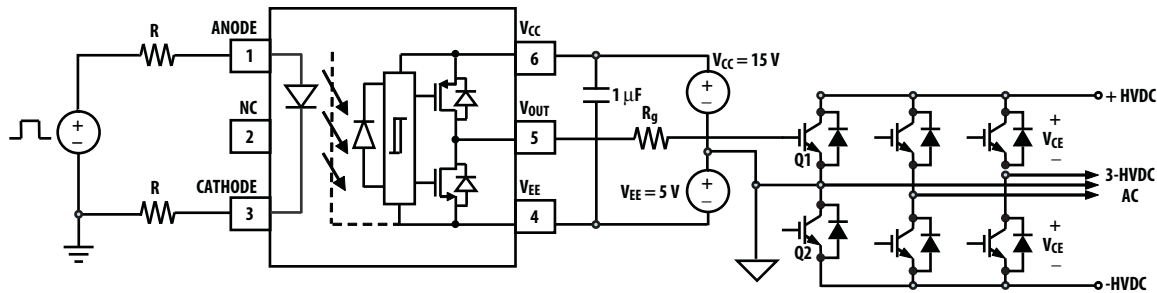

Figure 22. Recommended application circuit with split resistors LED drive.
The recommended application circuit shown in Figure 22 illustrates a typical gate drive implementation using the ACPL-P341. The following describes about driving IGBT. However, it is also applicable to MOSFET. Designers will need to adjust the V_{CC} supply voltage, depending on the MOSFET or IGBT gate threshold requirements (Recommended $V_{CC} = 15\text{ V}$ for IGBT and 12 V for MOSFET).
Step 1: Calculate Rg minimum from the I_{OL} peak specification. The IGBT and Rg in Figure 22 can be analyzed as a simple RC circuit with a voltage supplied by ACPL-P341/W341.
The ACPL-P341/W341 includes a Propagation Delay Difference (PDD) specification intended to help designers minimize “dead time” in their power inverter designs. Dead time is the time period during which both the high and low side power transistors (Q1 and Q2 in Figure 22) are off. Any overlap in Q1 and Q2 conduction will result in large currents flowing through the power devices between the high and low voltage motor rails.